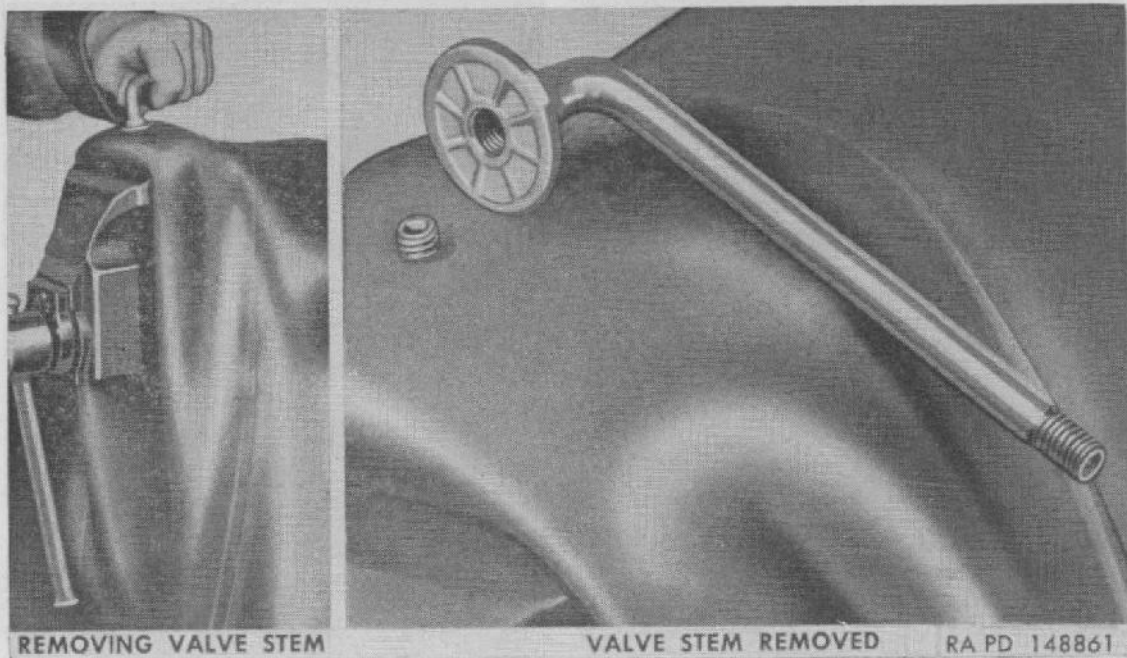

Figure 140. Valve stem replacement.
d. **VALVE STEM REPLACEMENT** (fig. 140). The valve stem is threaded onto an adapter which is vulcanized into the tube. This permits replacing the valve stem in the event it becomes broken or damaged and the tube is still serviceable. A new valve stem, or one removed from a damaged tube, can be installed.
- (1) To remove valve stem, position tube over vise (fig. 140); place foot inside tube at bottom and press down to stretch tube over vise. Turn valve stem counterclockwise to remove.
- (2) Make sure tube is clean around valve stem adapter. Wet area of tube contacted by valve stem with water to act as a lubricant while installing valve stem. Thread valve stem onto adapter. Stretch tube over vise while tightening valve stem. Do not use a pipe over valve stem to tighten.